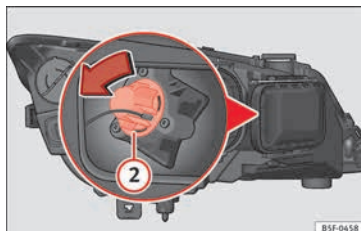

Fig. 107 Turn signal bulb.
- Turn the bulb holder » **Fig. 107 ②** anti-clockwise and pull.